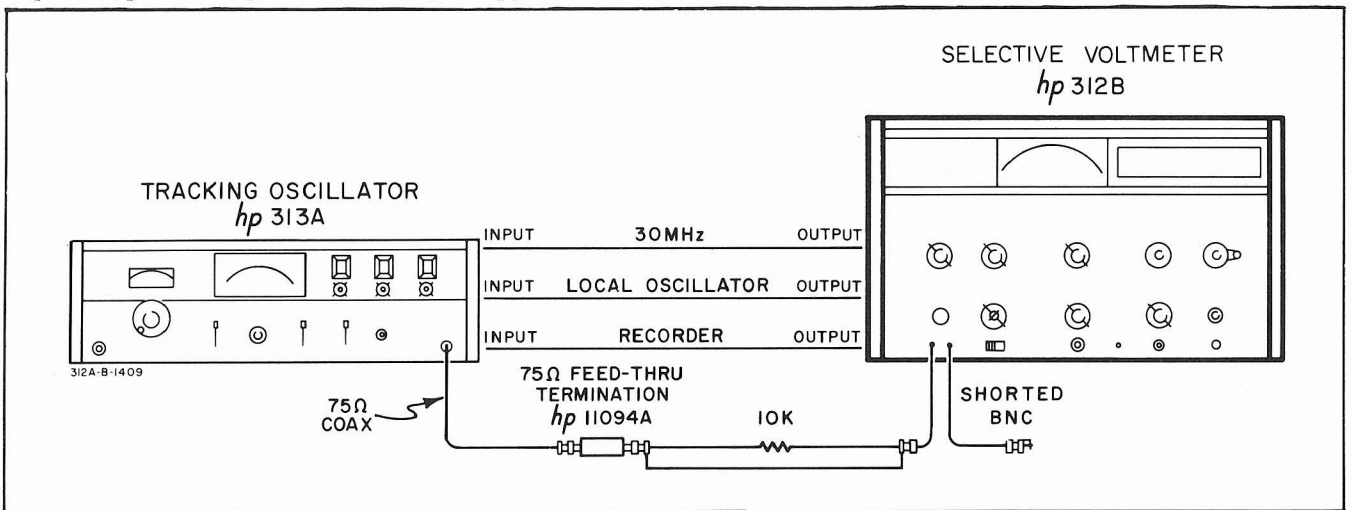

Figure 5-5. Bridging Impedance Test Setup - 312B.
b. Connect a 10 k $\Omega$   $\pm$  1% resistor in series with the input lead to J1 on the 312B as shown in Figure 5-5. The 312B Meter indication should drop by 6 dB or less indicating an input bridging impedance to ground of 10 k $\Omega$  or greater.